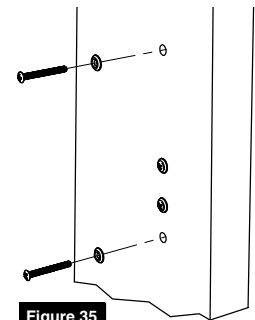

Figure 35
4. Install mounting screws and washers for the escutcheon. (Figure 35)